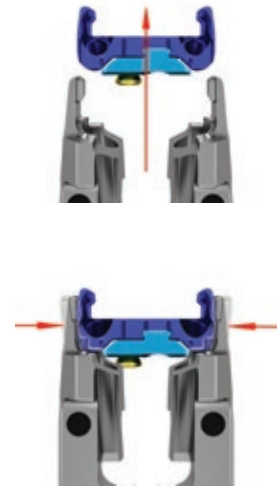

Fig. 65 ▲
Assemble the ATO Inserter Guide to the Modular Impaction Cap Handle. The ATO Inserter Guide grasps the outside of the plate by engaging the plate pockets. With the gold locking screw oriented on the left and guide circular markings facing upward, attach the ATO Inserter Guide around the outside of the plate. The ATO Inserter Guide snaps into place when the tabs are fully seated in the plate pockets. (Fig. 65, top)
**NOTE:** The circular markings on the ATO Inserter Guide should face upward when assembling the plate to the inserter. These markings are for orientation only, indicating the direction the two lateral screws will point in situ. (Fig. 65, bottom)